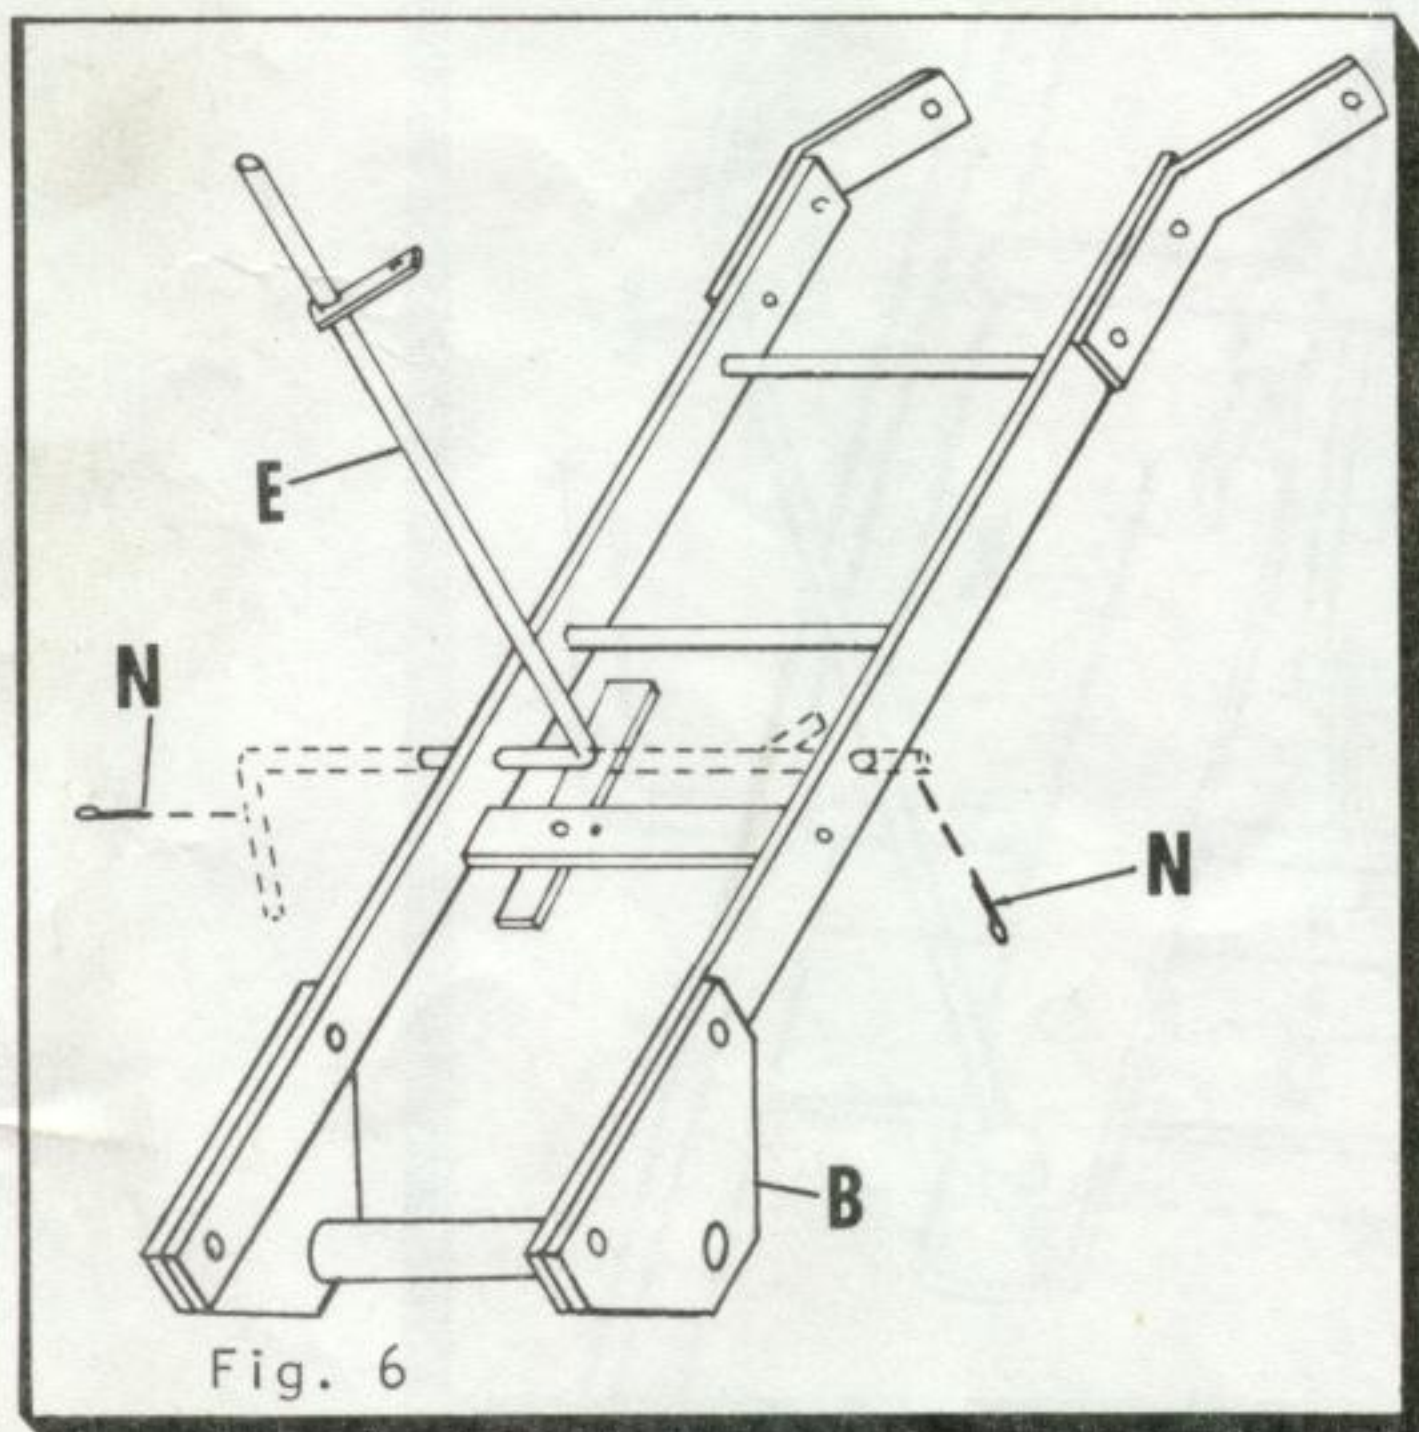

Fig. 6
1. Assemble pivot control arm (E) to rear mounting frame (B). (See Fig. 6)
2. Secure with two cotter pins (N).